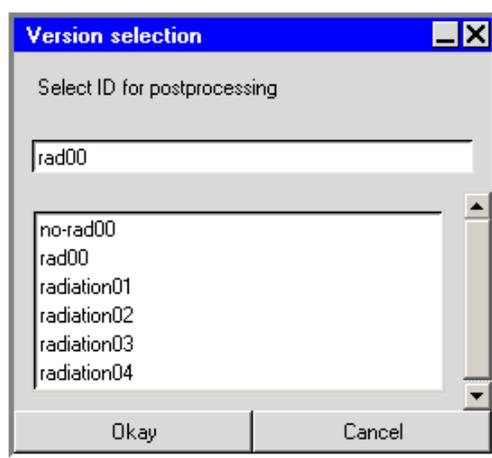

Figure 29.5.2: The Version selection Panel
You can create a summary for each solution that you generate in Airpak. To create a summary data file for a particular solution, select **Solution overview** and then **Create** in the **Report** menu. This opens a **Version selection** panel (see Figure 29.5.2) where you can select the solution ID to use to create the summary report.
Selected allows you to either enter the solution ID in the Solution ID text entry box or select the solution ID using the Version selection panel. Click Select to open the Version selection panel (Figure 29.5.2).
1. Specify the **Solution ID** for which you wish to create a report. You can either enter the solution ID in the **Solution ID** text entry box, or select the solution ID using the **Version selection** panel. Click **Select** to open the **Version selection** panel (Figure 29.5.2).